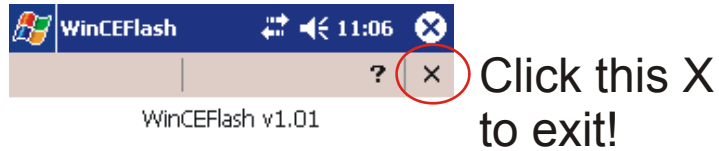

Figure 19. Exiting the *WinCEFlash* Program
- k. Click the **X** button to exit *WinCEFlash* (see Figure 19). Make sure to click the **X**, not the white circle with the X (this only minimizes the program). If *WinCEFlash* is not exited, the COM port will be still in use and not available for use with the *StreamPro* software.